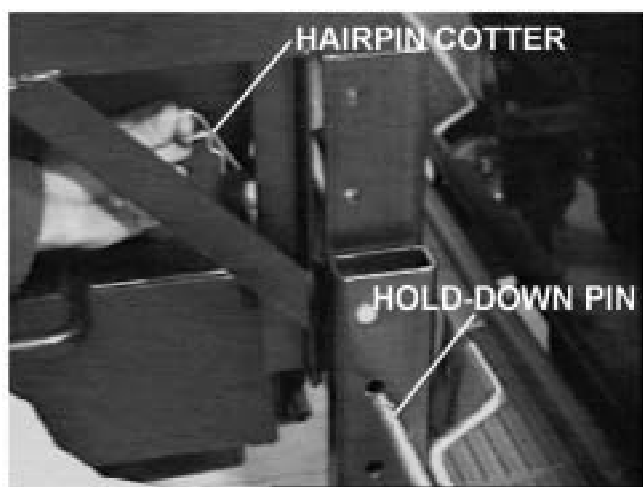

Figure 11
4. Insert hold-down pins on each side and secure with hairpin cotters. See Figure 11.